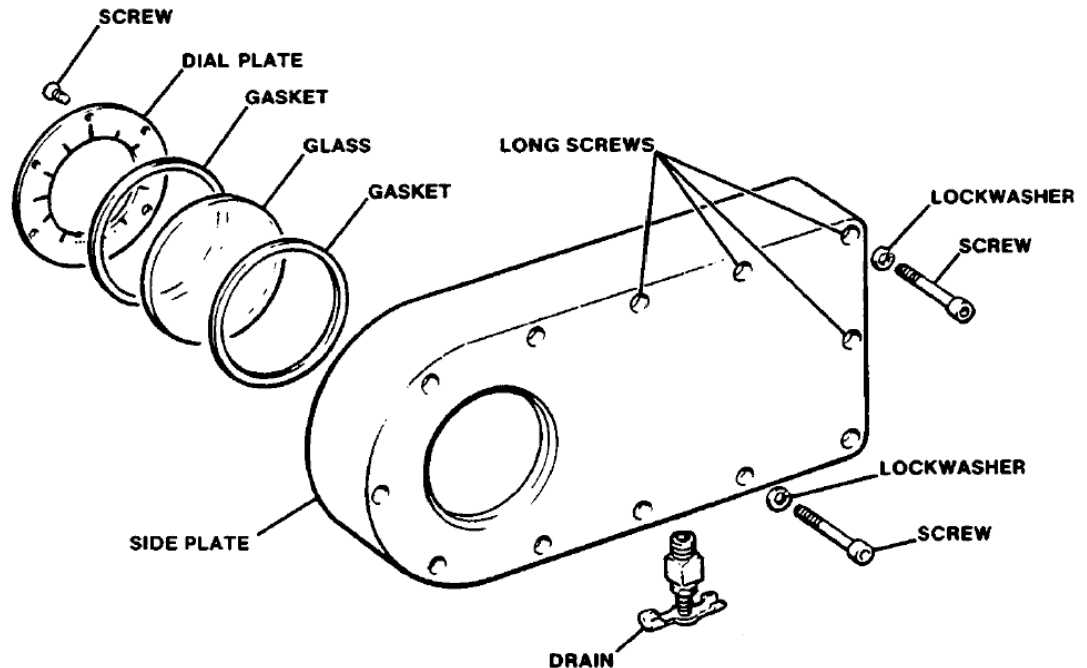

Figure 5-47. Side Plate Cover
23. Attach side-plate cover to side plate. Holes in top right (Figure 5-47) need four 3 inch (76 mm) long screws. Eight other holes require 2-1/8 inch (54 mm) screws.